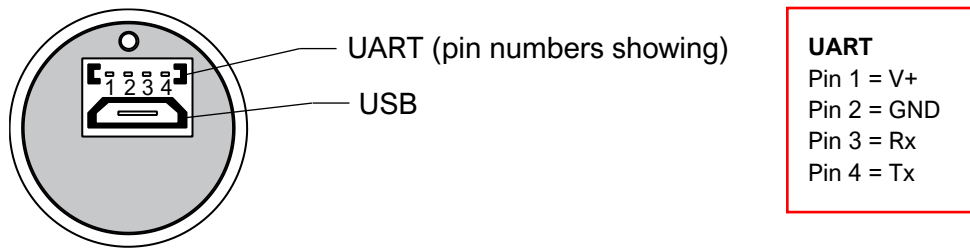

Figure 11: connector interface and pin assignment
Step 5: Connect the input trigger signal to the Rx pin (pin 3) on the probe's UART connector (see Figure 11) and the trigger system ground to the GND pin (pin 2).